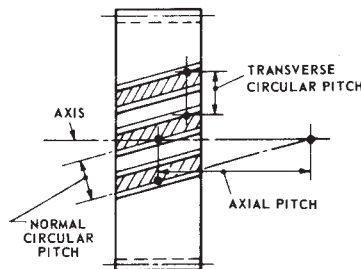

FIGURE 1.10 — NORMAL, TRANSVERSE & AXIAL PITCH
- 1.23 Normal Circular Pitch** is the circular pitch in the normal plane, and also the length of the arc along the normal helix between helical teeth or threads. (Figure 1.10)
- 1.24 Axial Pitch** is linear pitch in an axial plane and in a pitch surface. In helical gears and worms, axial pitch has the same value at all diameters. In gearing of other types, axial pitch may be confined to the pitch surface and may be a circular measurement. (Figure 1.10)
- 1.25 Transverse Circular Pitch** is the circular pitch in the transverse plane. (Figure 1.10)